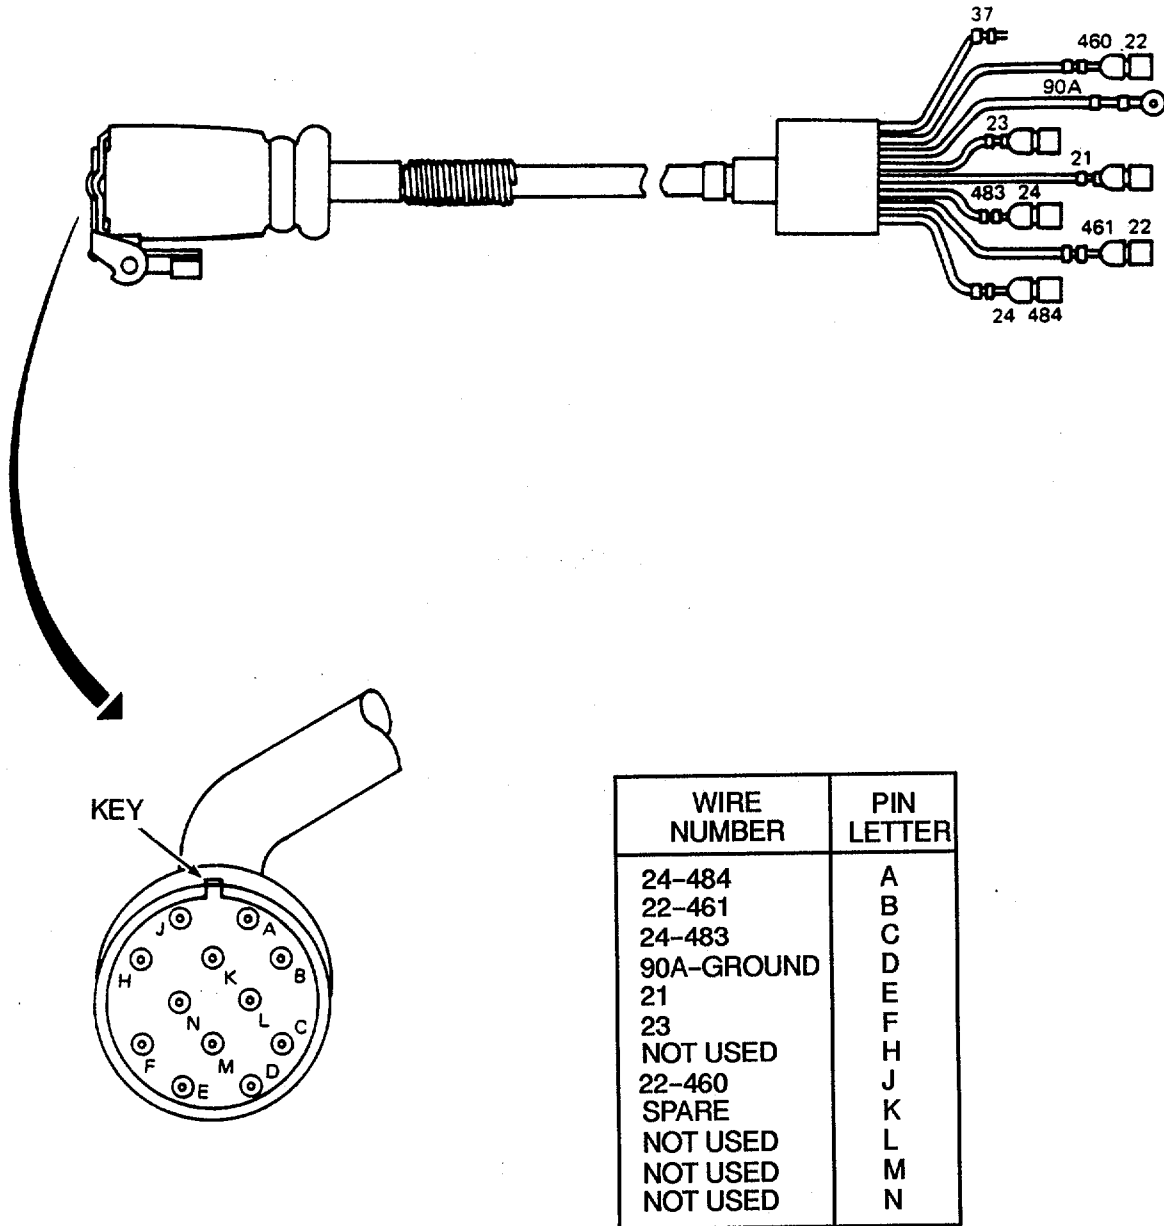

Figure 2-4. Power Cable Assembly Support Diagram
Refer to figure 2-4 for power cable assembly support diagram.
- Refer to figure 2-4 for power cable assembly support diagram.